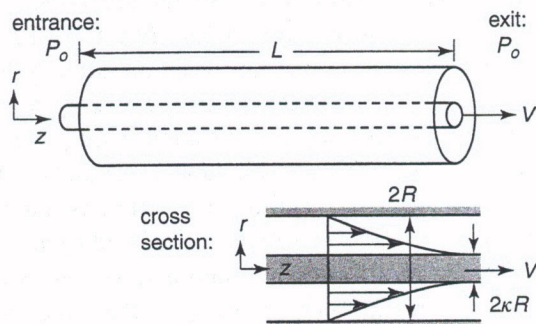

Figure 6.22
43. *Flow Problem: Axial annular drag, wire coating.* An incompressible Newtonian fluid fills the annular gap between a cylindrical wire of radius κR and an outer shell of inner radius R (Figure 6.22). The wire is pulled to the